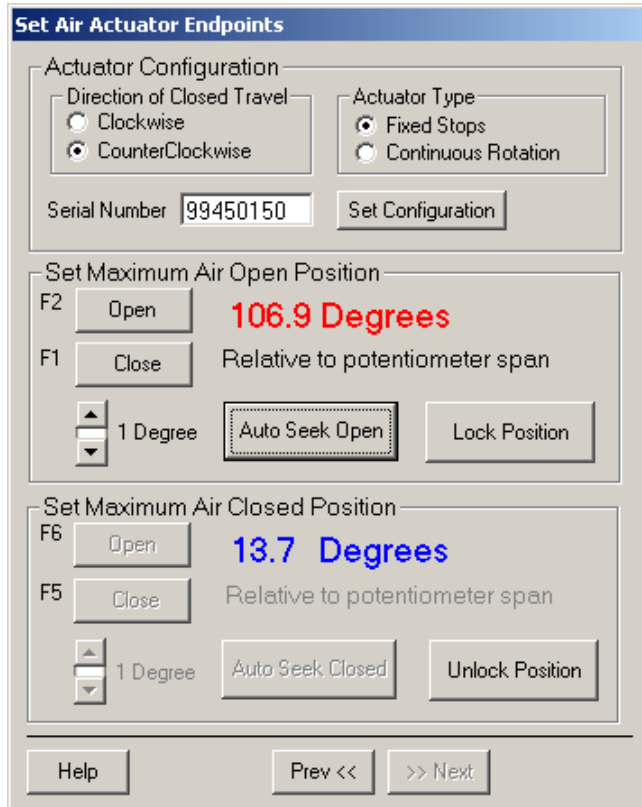

Fig. 12. Move actuator five degrees off the mechanical open stop.
8. Move the actuator five (5) degrees off the mechanical open stop. See Fig.12.